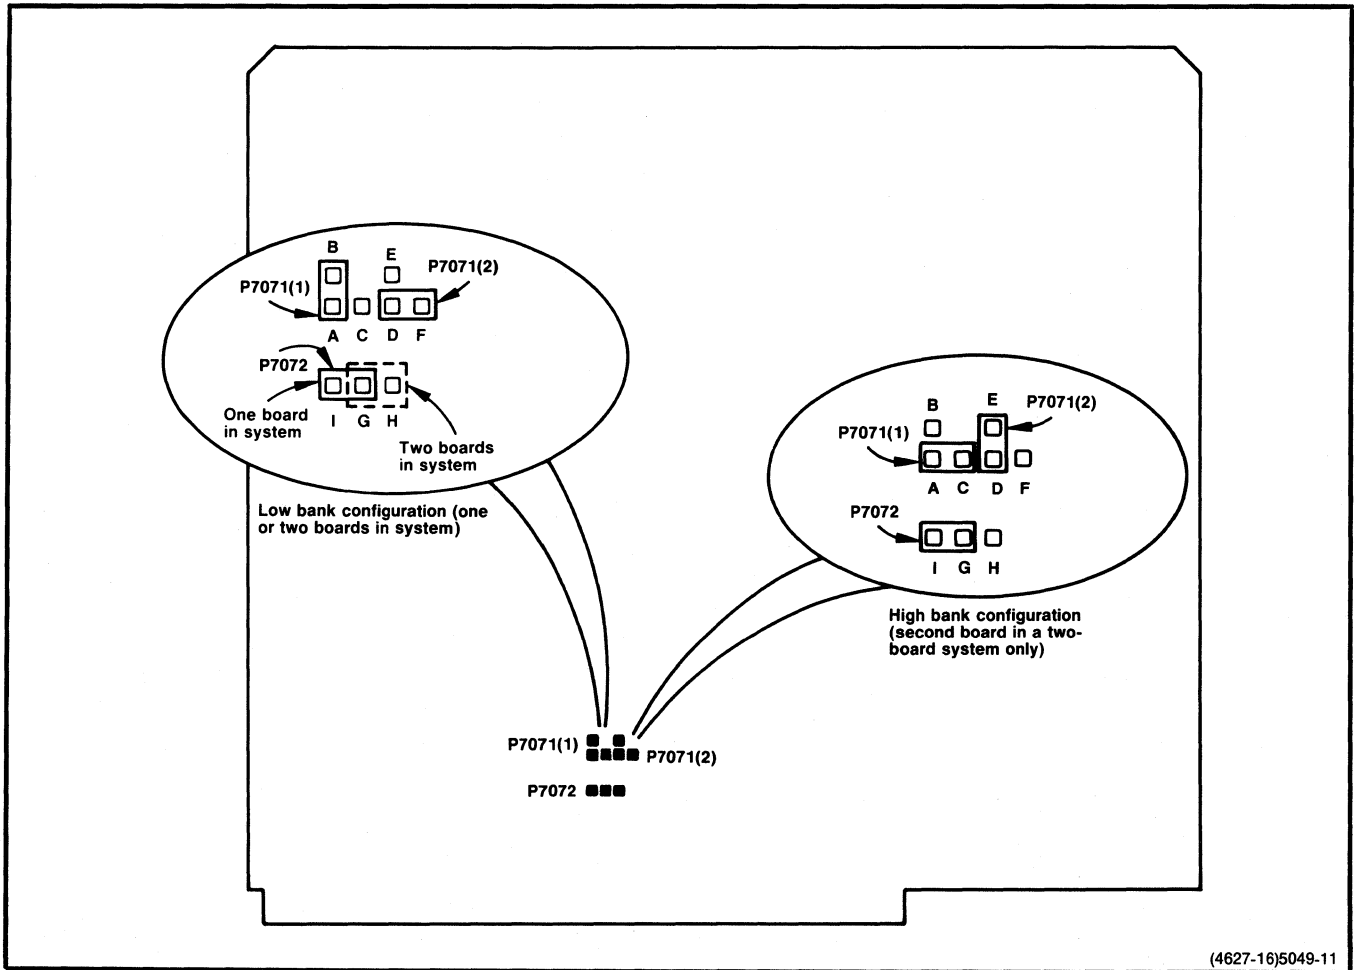
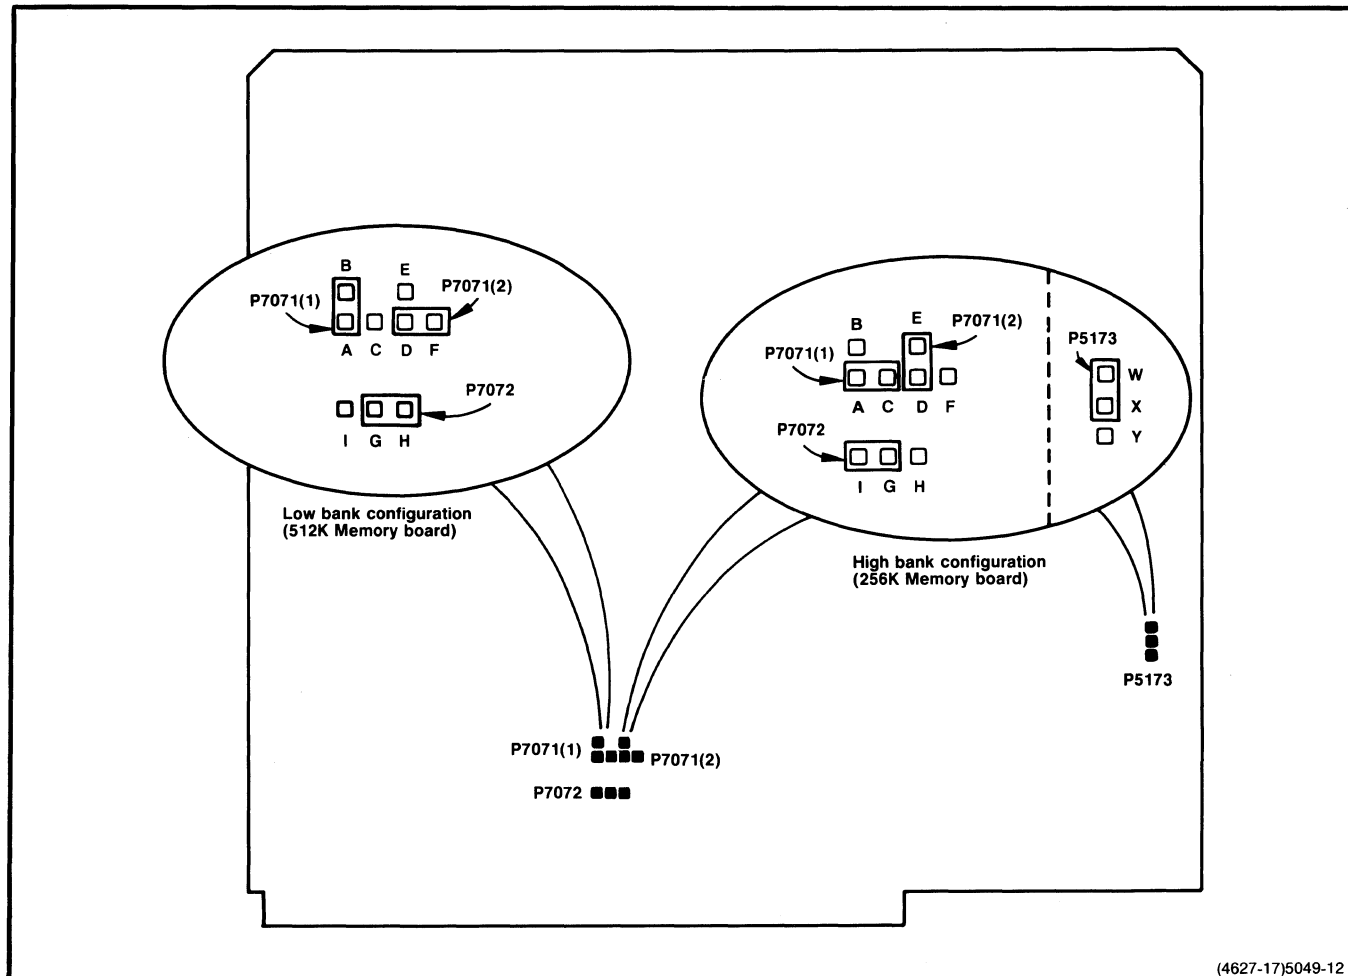

Fig. 3-14. Jumper locations for one or two 512K Memory Boards installed.
Fig. 3-15. Jumper locations for a 256K and a 512K Memory Board installed.
If only one memory board is installed, the board must be assigned to control the low bank of memory addresses. Jumper P7071(1) must be in the A-B position, jumper P7071(2) must be in the D-F position, and jumper P5073 (256K memory board only) must be in the W-X position. Refer to Fig. 3-13 for low-bank configuration of the 256K Memory Board. Refer to Fig. 3-14 for low-bank configuration of the 512K Memory Board (one or two 512K Memory Boards installed). Refer to Fig. 3-15 for low-bank configuration of the 512K Memory Board (256K Memory Board and 512K Memory Board installed.)
high-bank configuration of the 256K Memory Board (two 256K Memory Boards installed). Refer to Fig. 3-15 for high-bank configuration of the 256K Memory Board (256K Memory Board and 512K Memory Board installed). Refer to Fig. 3-14 for high-bank configuration of the 512K Memory Board (two 512K Memory Boards installed).
When the 256K and 512K Memory Boards are used together for a 768K-byte memory system, the 512K Memory Board must be configured as the low bank and the 256K Memory Board must be configured as the high bank. Refer to Fig. 3-15 for jumper locations.
If only one memory board is installed (low-bank operation), jumper P7072 must be in the I-G position. This enables the lower half of the highest 8K of memory for I/O operations. Refer to Fig. 3-13 and Fig. 3-14 for low-bank configurations.
must be in the position G-H; on the high-bank board, jumper P7072 must be in position I-G. Refer to Fig. 3-13, Fig. 3-14 and Fig. 3-15 for jumper configurations.